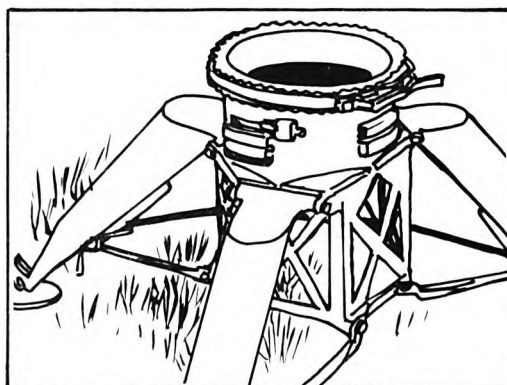

Figure 3. Level indicator with bubble properly centered.
c. Check your level indicators (figure 3). If the bubble is not between the indexing marks, you must adjust the legs. Do this by again pushing in on the detent stop lever to center one bubble and then the other. (Use the friction lock to lock the legs between detent positions if required while leveling.)